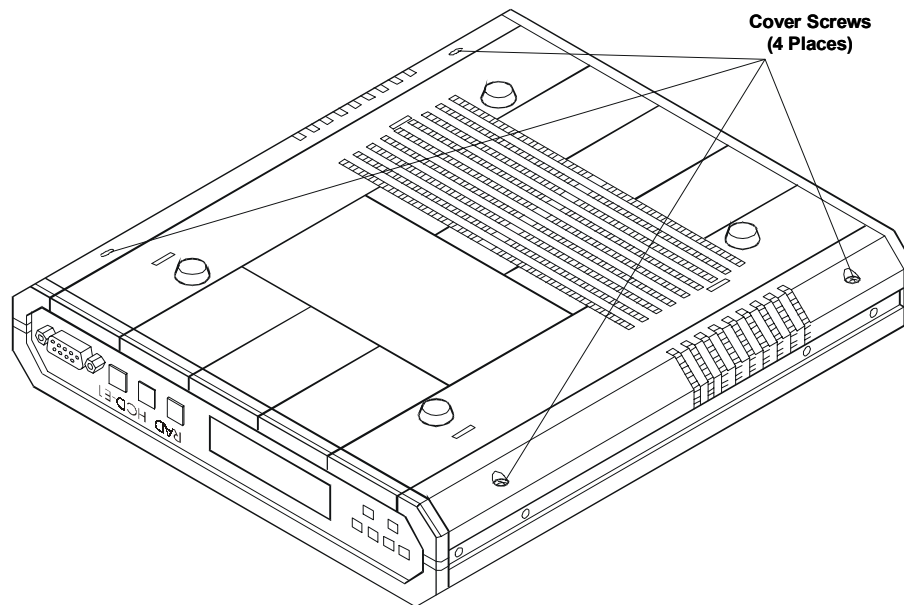

Figure 2-2 Identification of Cover Screws
3. Unscrew the four cover screws (see *Figure 2-2*) and keep them in a safe place.